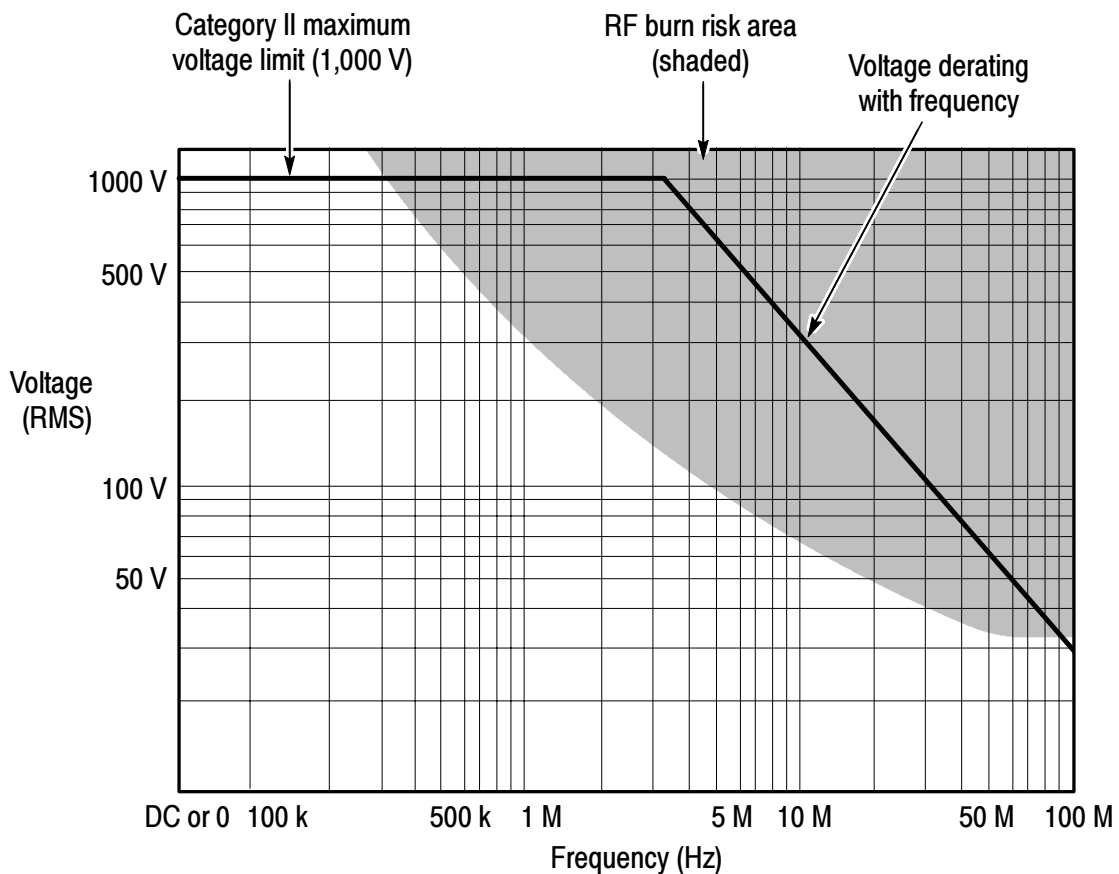

Figure 2: Safety Limits (voltage between either input and earth ground)
WARNING. *To avoid personal injury, do not handle the probe leads when the leads are connected to a source that is above the voltage and frequency limits given in Figure 2 on page 11. The area above these limits poses a risk of radio frequency (RF) burns.*
CAUTION. *To avoid damaging the input circuitry of the P5205 probe, do not apply a voltage that is more than 1,000 V_{RMS} CAT II between either input and ground or more than 1,300 V (DC + peak AC) between the two inputs. Above 3 MHz, the voltage limit decreases as frequency increases. See Figure 2 on page 11. The input limit applies to both the 50X and 500X settings.*